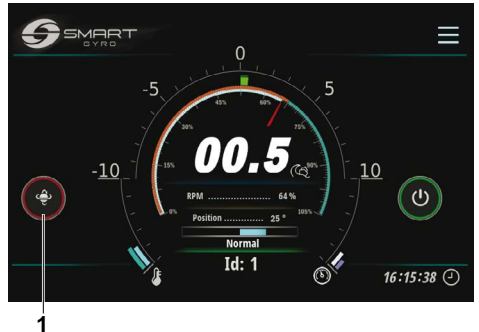

Figure 8
8. To stop the precession, press the precession toggle icon. The circle around the icon goes red, indicating that the precession is locked and the sphere cannot rotate (Figure 8, (1)).